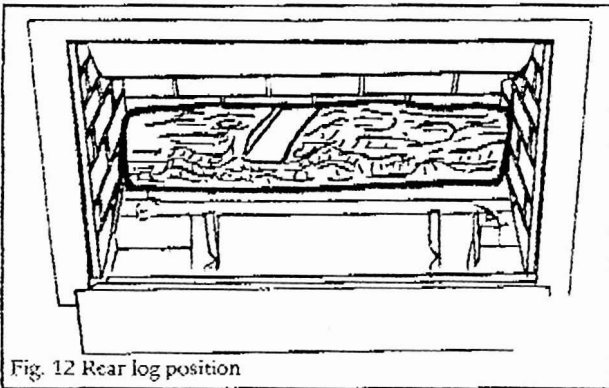

Fig. 12 Rear log position
- 12.3 Place the rear log (the log without a branch) in the retaining cradle behind the rear burner tube with its back against the back wall. Center the log so that the gap to the side wall is the same at each side (see figure 12).